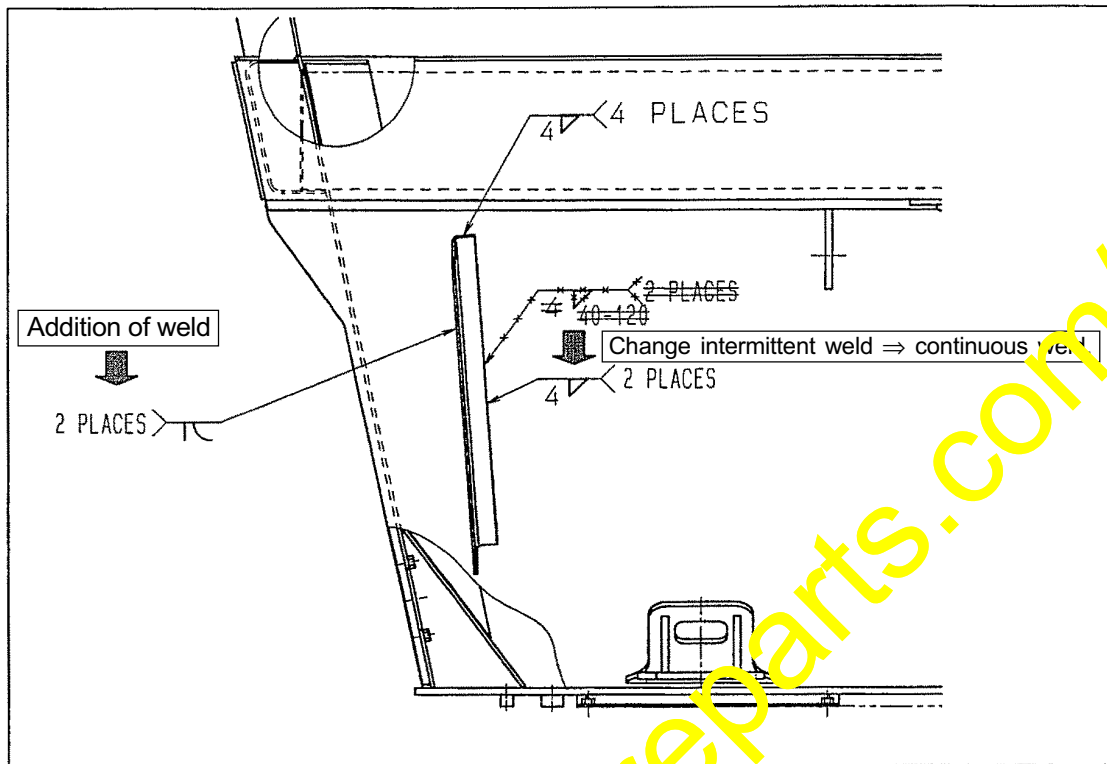
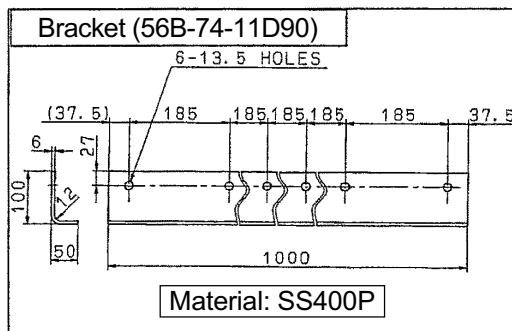

Fig. 1
Fig. 3
To prevent cracks in the bracket weld of the mud guard for the body, rigidity was improved by changing to full arc weld as shown below (See Fig.1).
- 3-4 Mend by weld as shown in Fig. 1.
- 3-6 If the bracket is damaged and it cannot be reused, make the bracket with the shape as shown in Fig.3 and carry out weld according to Fig.1.